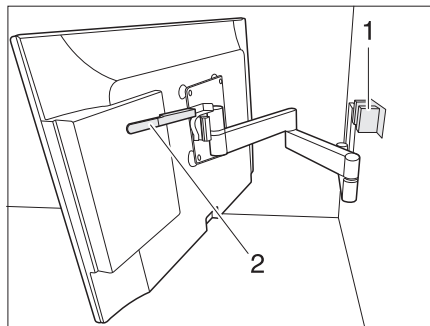

Fig. 59 Holder with jointed arm
- Press the lever (Fig. 59,2) downwards to release the flat screen from the latch (Fig. 59,1). Release the lever.